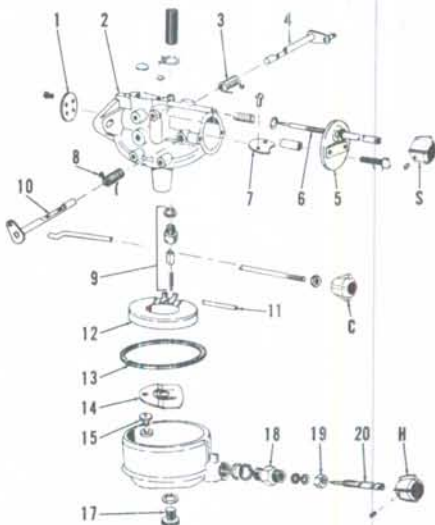

Fig. Mc5-1—Exploded view of Carter N type carburetor used.
**CARBURETOR.** A Carter, model N, float type carburetor is used. Refer to Fig. Mc5-1. Carburetor is provided with two mixture adjustment needles. The idle mixture needle (6) and high speed adjustment needle (20) should both be initially adjusted to approxi-